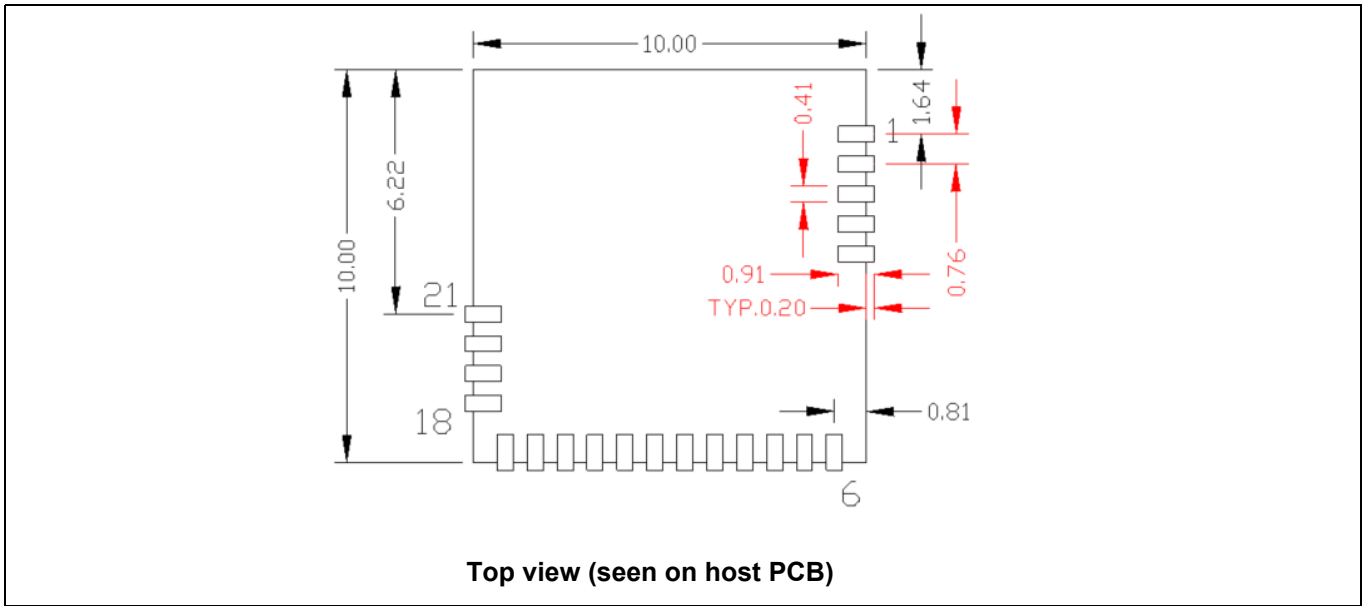
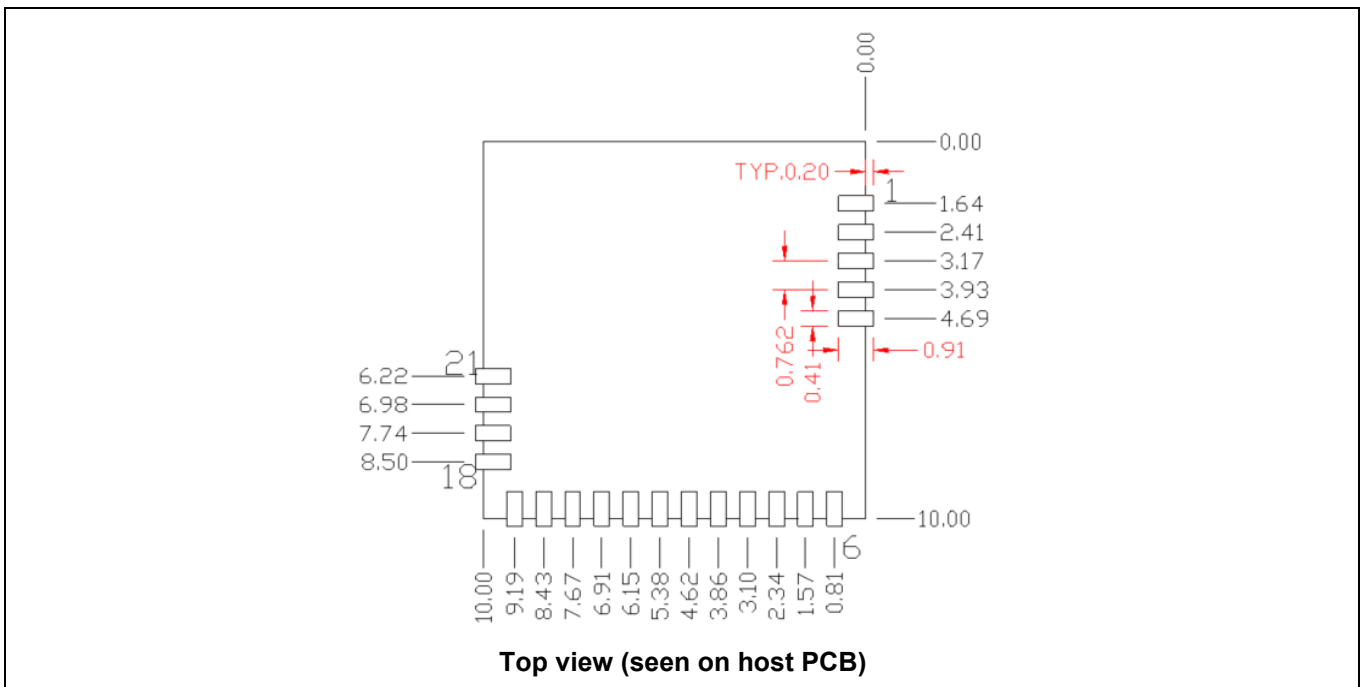
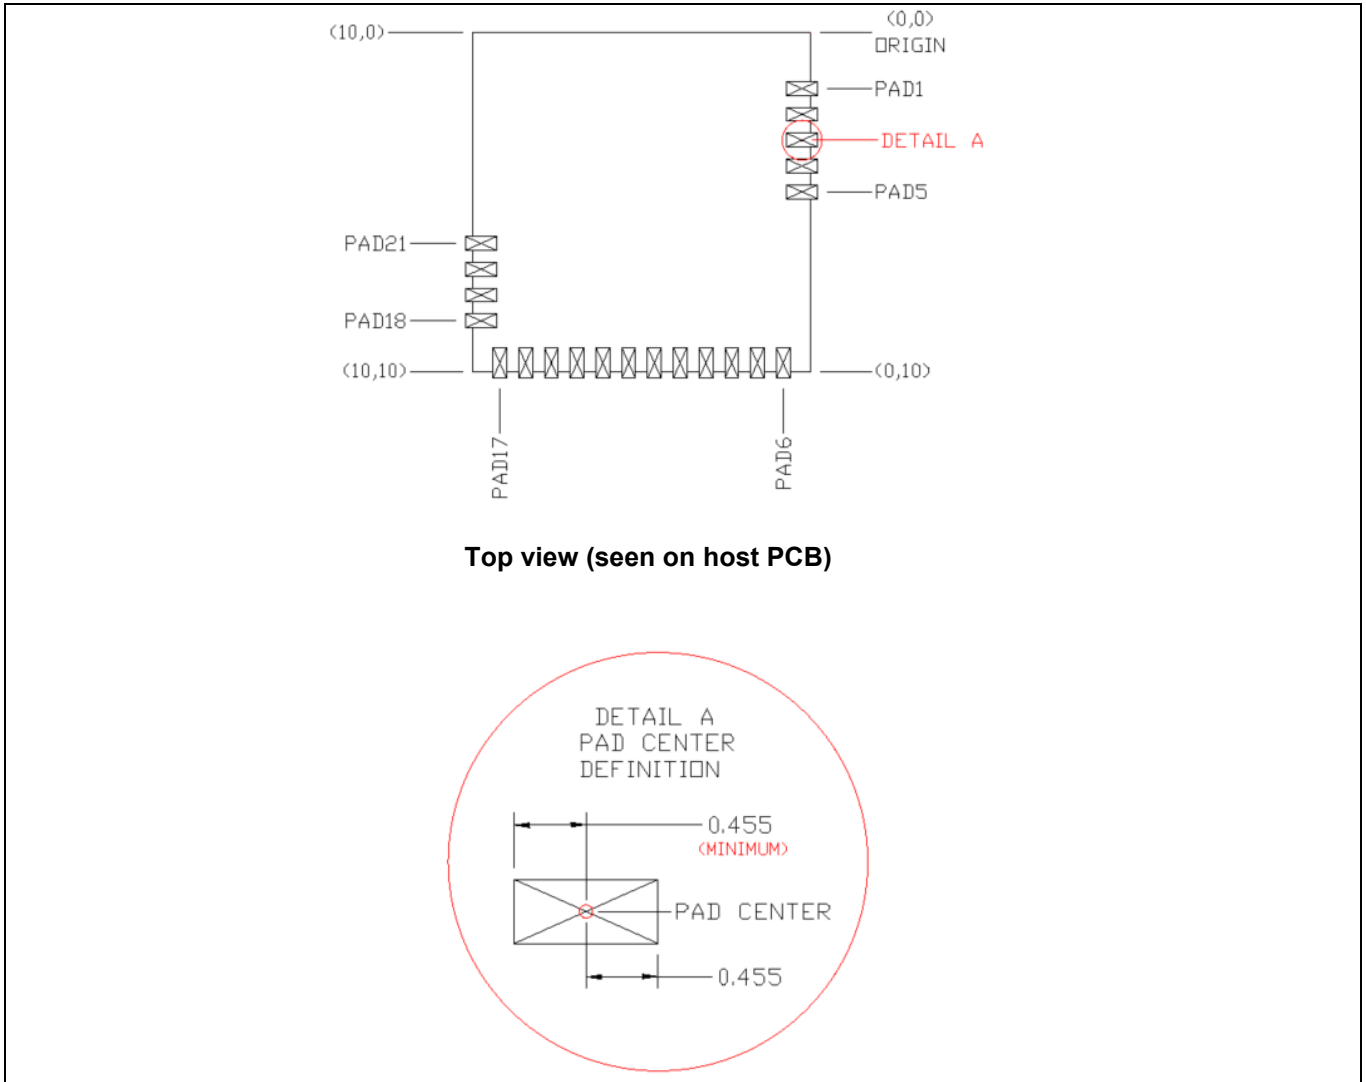

Figure 4 Host layout pattern for CYBLE-022001-00
Figure 5 Module pad location from origin
Figure 6 Solder pad reference location
- The ideal placement of the Infineon Bluetooth® LE module is in a corner of the host board with the chip antenna located at the far corner. This placement minimizes the additional recommended keep out area stated in item 2. Refer to **AN96841** for module placement best practices.
- To maximize RF performance, the area immediately around the Infineon Bluetooth® LE module chip antenna should contain an additional keep out area, where no grounding or signal traces are contained. The keep out area applies to all layers of the host board. The recommended dimensions of the host PCB keep out area are shown in **Figure 4** (dimensions are in mm).
Figure 4, **Figure 5**, **Figure 6**, and **Table 3** provide details that can be used for the recommended host PCB layout pattern for the CYBLE-022001-00. Dimensions are in millimeters unless otherwise noted. Pad length of 0.91 mm (0.455 mm from center of the pad on either side) shown in **Figure 6** is the minimum recommended host pad length. The host PCB layout pattern can be completed using either **Figure 4**, **Figure 5**, or **Figure 6**. It is not necessary to use all figures to complete the host PCB layout pattern.
Table 3 provides the center location for each solder pad on the CYBLE-022001-00. All dimensions are referenced to the center of the solder pad. Refer to **Figure 6** for the location of each module solder pad.